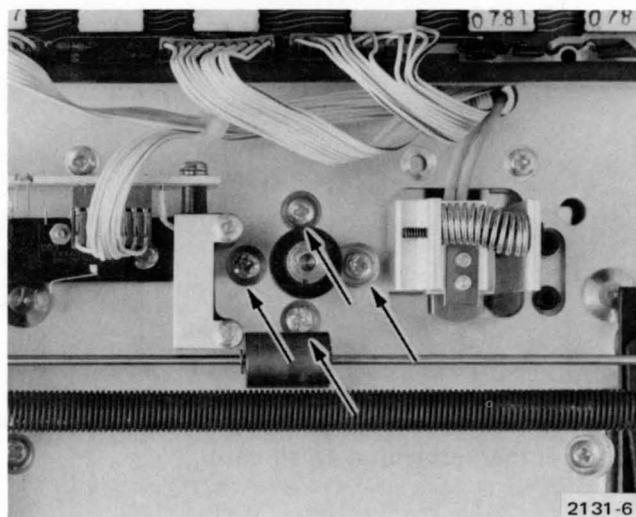

Fig. 3-4. Motor Attaching Screws.
3. Remove the four screws that attach the Motor/Tachometer to the 4924 frame (Fig. 3-4). As the last screw is removed, the motor assembly is freed for removal from the chassis.